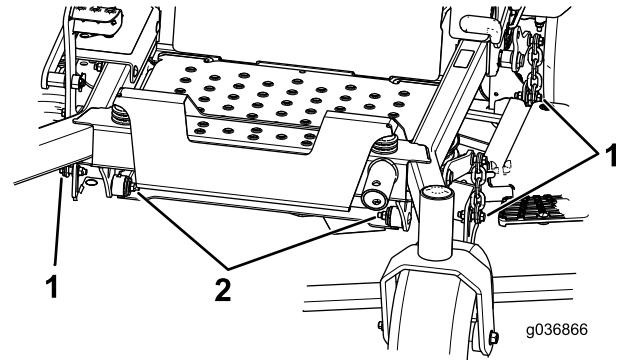

Figure 84
8. Remove and retain the bolts and nuts on both sides of the machine (Figure 84).